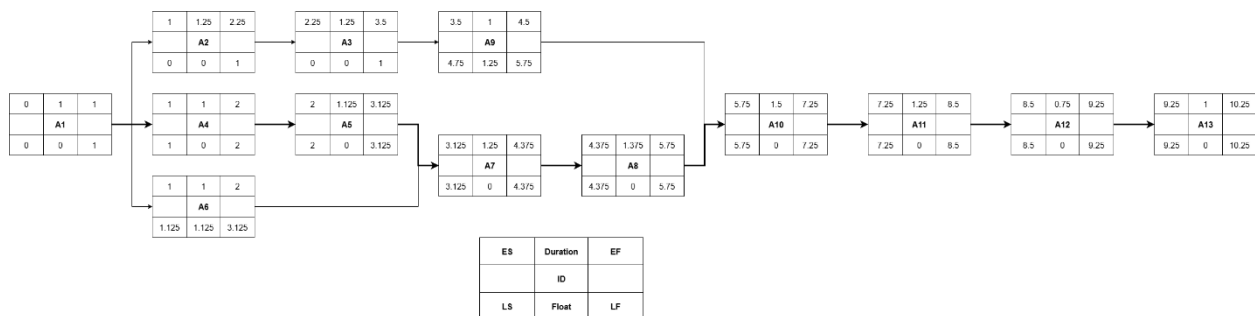

Figure 1: Schedule Network Diagram
Figure 1 outlines the sequence and dependencies of project activities A1 to A13, showing how each task flows into the next. Each node includes timing metrics including early start (ES), early finish (EF), late start (LS), and late finish (LF), duration, and float to help identify the critical path and scheduling flexibility. All durations are based on work units, where 1 unit equals 8 hours of team effort.